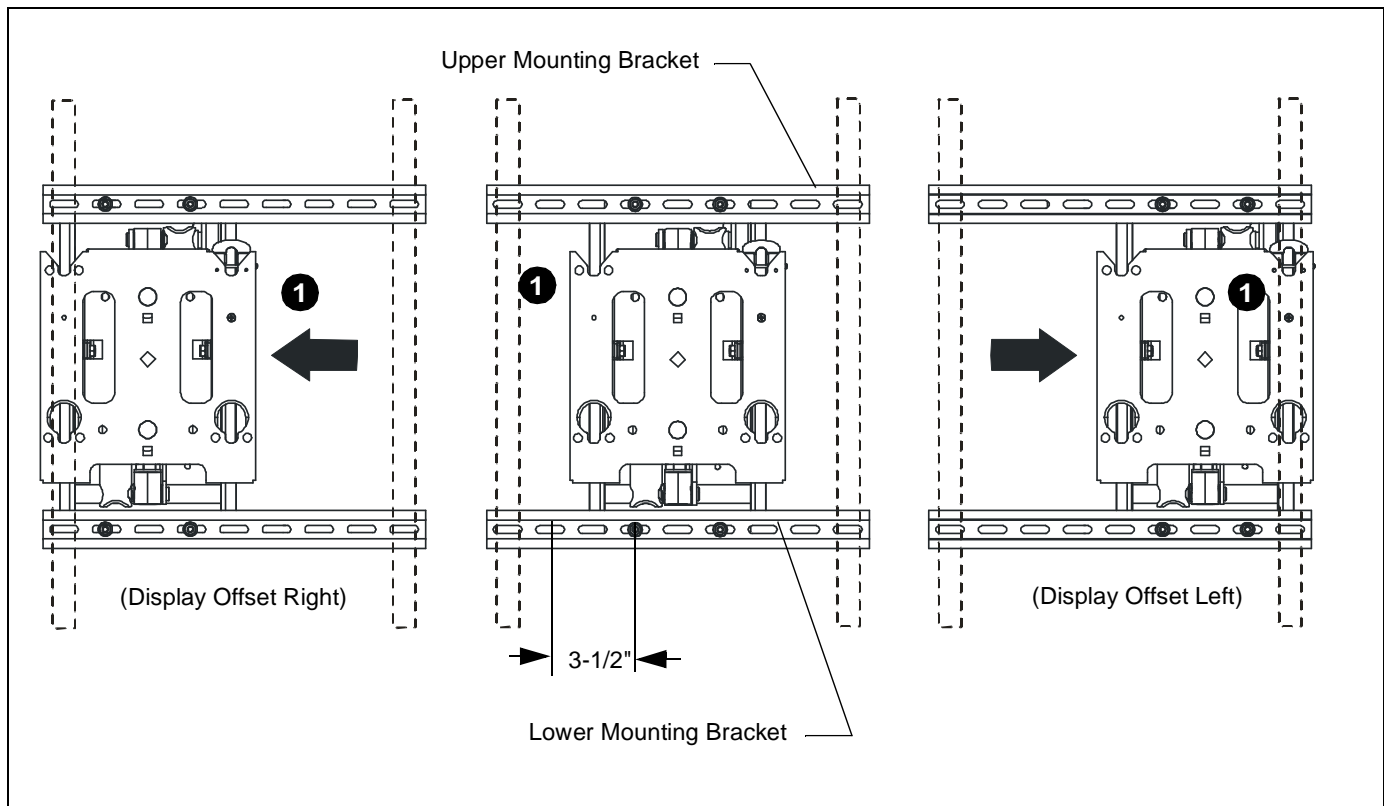
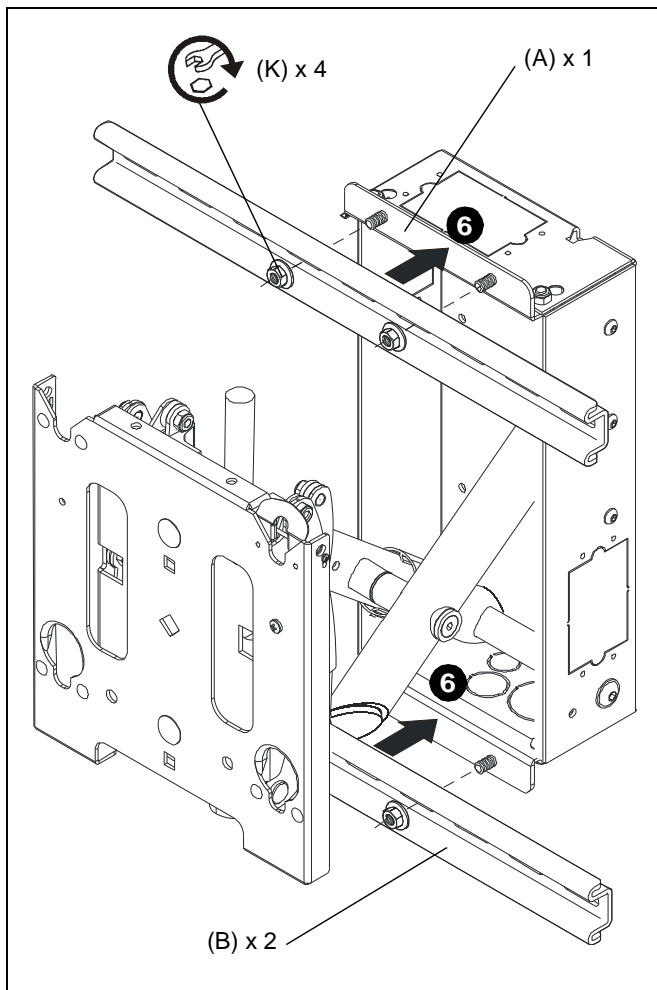

Figure 3
Figure 4
The MIWRF Series is designed to accommodate up to 3-1/2" of lateral shift adjustment (right or left display offset from center of studs). This is accomplished by aligning the upper and lower mounting studs on the housing with either the right hand or left hand mounting holes in the upper and lower mounting brackets. (See Figure 3)
3. Determine desired lateral shift required. (See Figure 3)
6. Assemble upper and lower mounting rails (B) to mount (A) in slots that correspond to the desired lateral shift offset identified during step 3 above using four flanged nuts (K). (See Figure 3) and (See Figure 4)
7. Install Listed J-box(s) [not included] and route all in-wall cables and wiring to mount enclosure keeping in mind the lateral shift offset determined during Step 3 above. (See Figure 3)